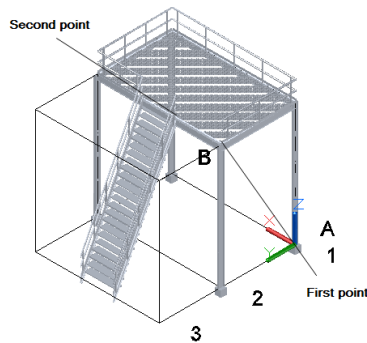
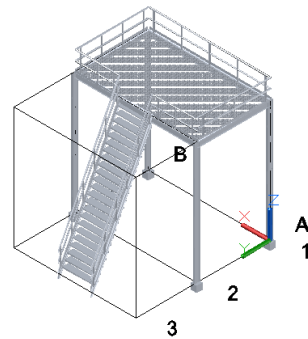

Figure 3-49 Points to be selected to create the railing
Figure 3-50 Model after adding the railing
5. Invoke the **Railing** tool again and select the start and end points, as shown in Figure 3-49. The model after adding the railing is shown in the Figure 3-50.